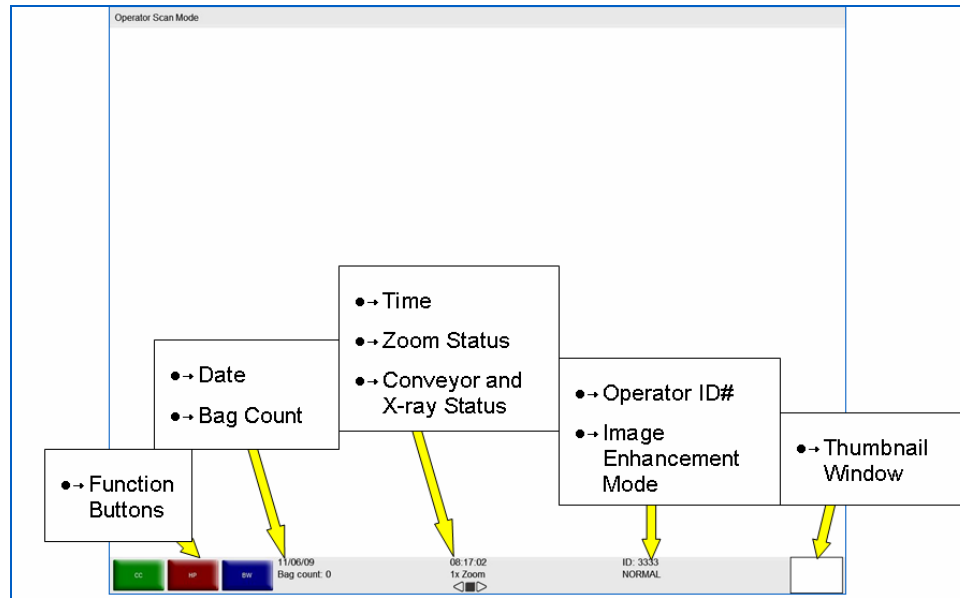
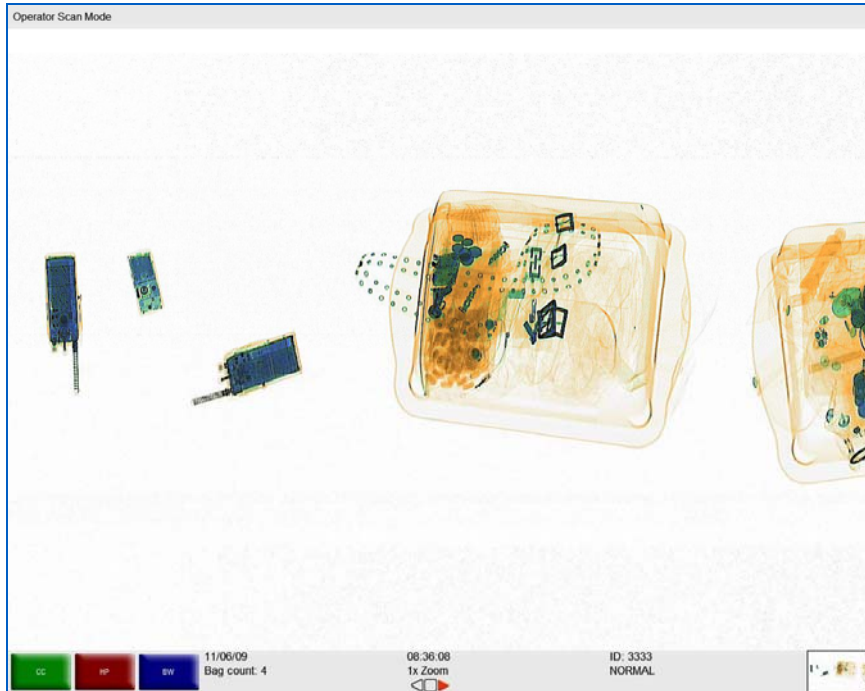
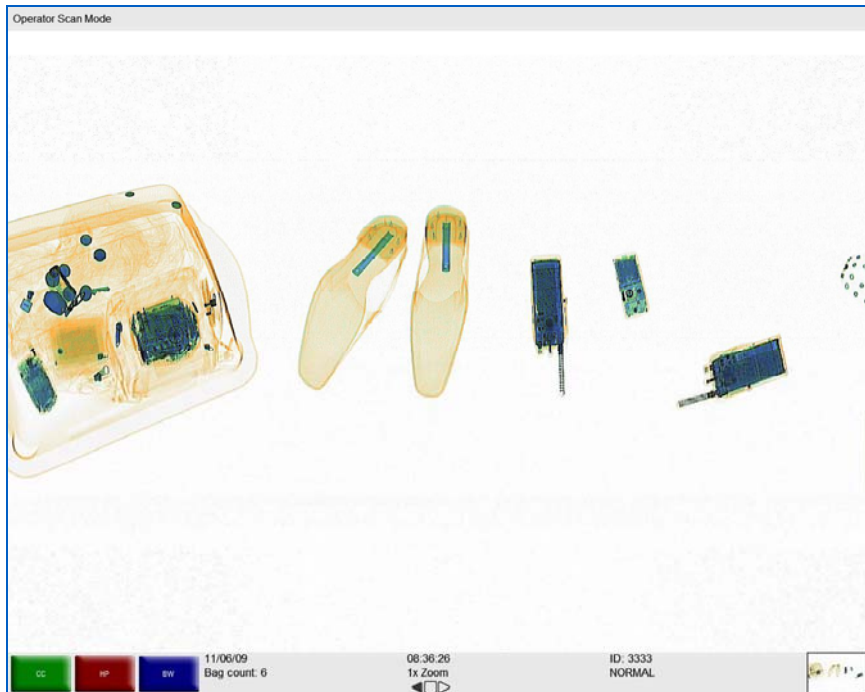

Figure 82: Main Operation Screen
Figure 83: Forward / Thumbnail Window
Figure 84: Reverse
- Three Programmable Function button indicators (in the case of Figure 82 the buttons read CC, HP and Toggle).
- Conveyor status, i.e. Stop, Reverse or Forward, (see Figure 83 and Figure 84).
- Thumbnail Window (see empty window in Figure 82 and thumbnail in window on Figure 83)